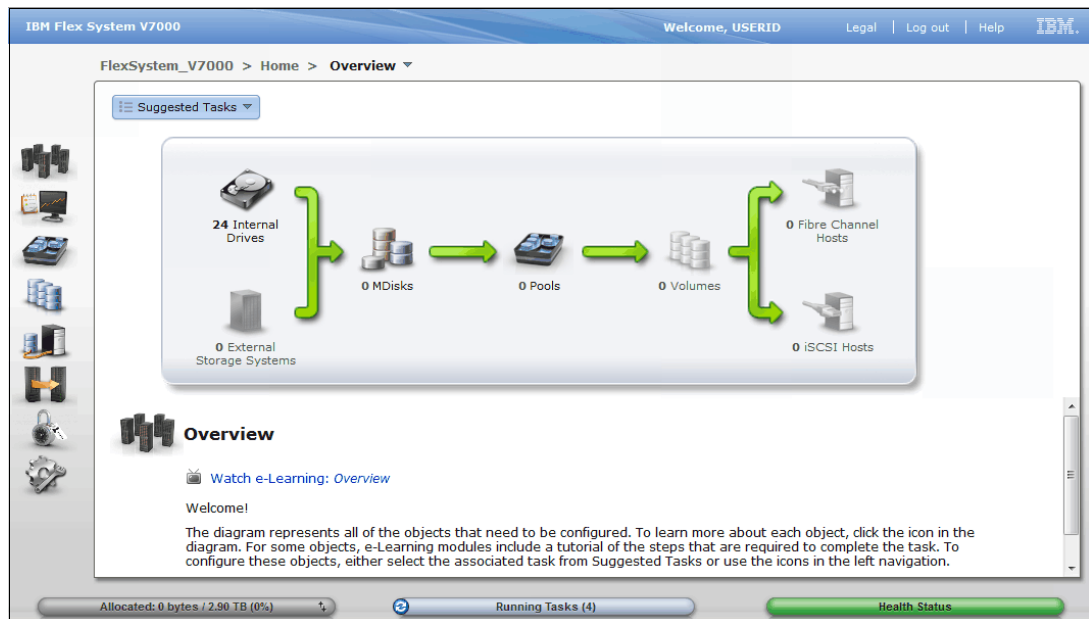

Figure 4-22 IBM Flex System V7000 Storage Node Home Overview window
11. After successful login, the IBM Flex System V7000 Storage Node Home Overview window looks as shown in Figure 4-22.